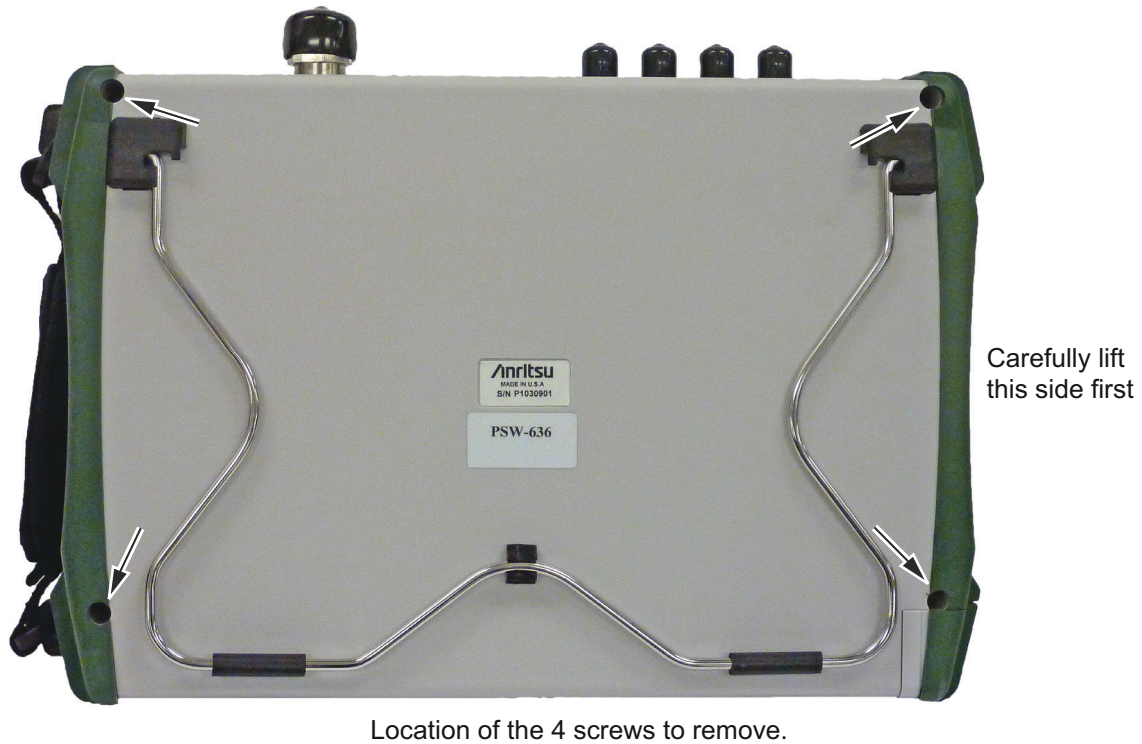

Figure 5-2. Remove the Four Screws
4. Use a Torx T10 screwdriver to remove the four screws securing the two halves of the Spectrum Master case together (Figure 5-2).